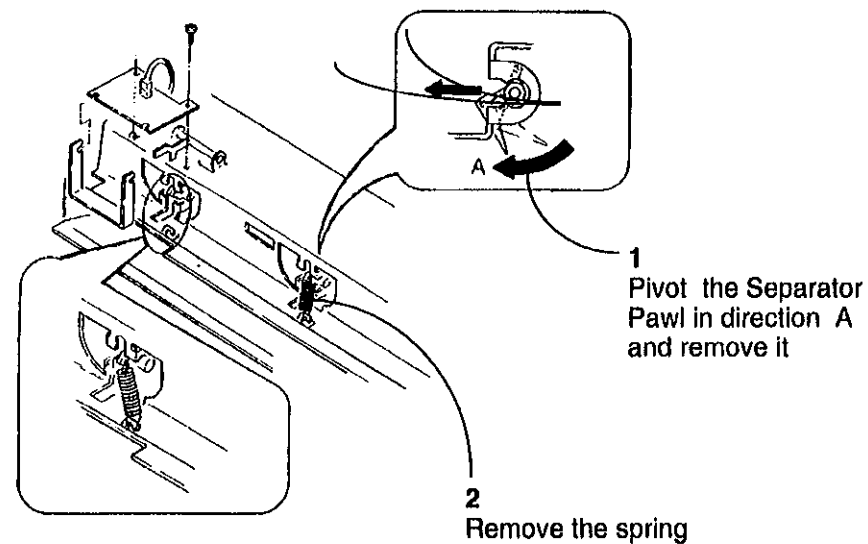

Figure 1. Removing a Separator Pawl
- 2 (Figure 1) Remove the Separator Pawl